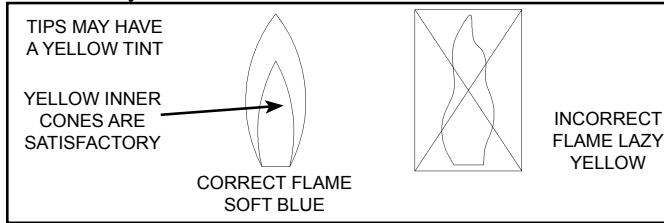
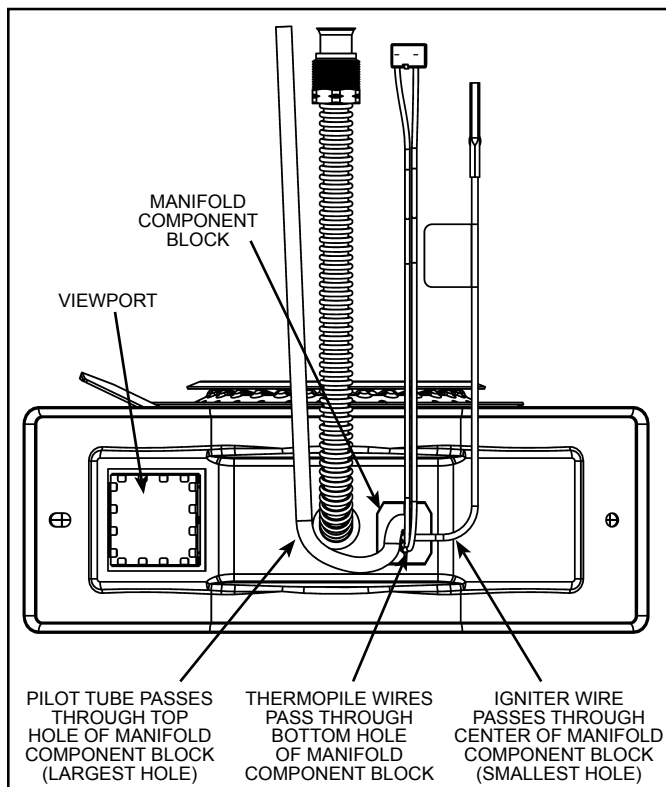

Figure 31
Figure 37
At least once a year a visual inspection should be made of the main burner and the pilot assembly for proper flame characteristics. This can be done by removing the Outer Door and viewing the main burner operation through the Viewport on the Inner Door (see Figure 37). The main burner should provide complete combustion of gas, ignite rapidly, give reasonably quiet operation, and cause no excessive flame lifting from the burner ports. If the proper flame characteristics are not evident (see Figure 31), make sure that the flow of combustion and ventilation air is not blocked in the venting system. You should also check for sooting. Soot is not normal and will impair proper combustion.
Inspect the burner flames through the viewport and compare them to the drawings in Figure 31. A properly operating burner should produce a soft blue flame. Blue tips with yellow inner cones are satisfactory. The tips of the flame may have a slight yellow tint. The flame should not be all yellow or have a sharp blue-orange colour. Contaminated air may cause an orange coloured flame. Contact a qualified service technician if the flame is not satisfactory
9. Reinstall the manifold component block in the manifold door. Ensure that the pilot tube and wires are positioned as shown in Figure 37.